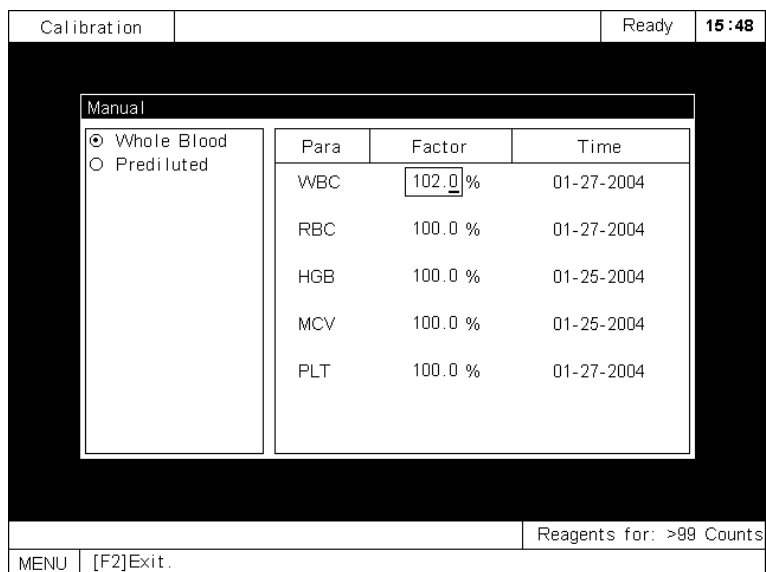

Figure5-5 Editing calibration factors
3. Press [F2] to enable the edit boxes right of the 5 parameters, as Figure5-5 shows.